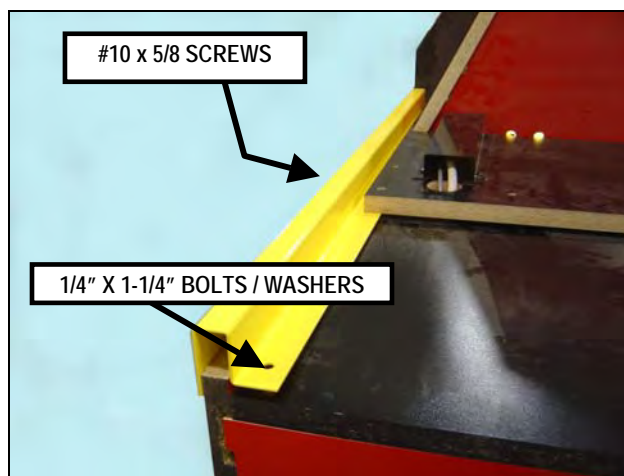

Figure 9 Installing Top Rails
b. Secure the marquee to the rear cabinet with four 1/4-20 x 1-1/4" bolts and plain washers screwed into recessed nuts. See Figure 9.